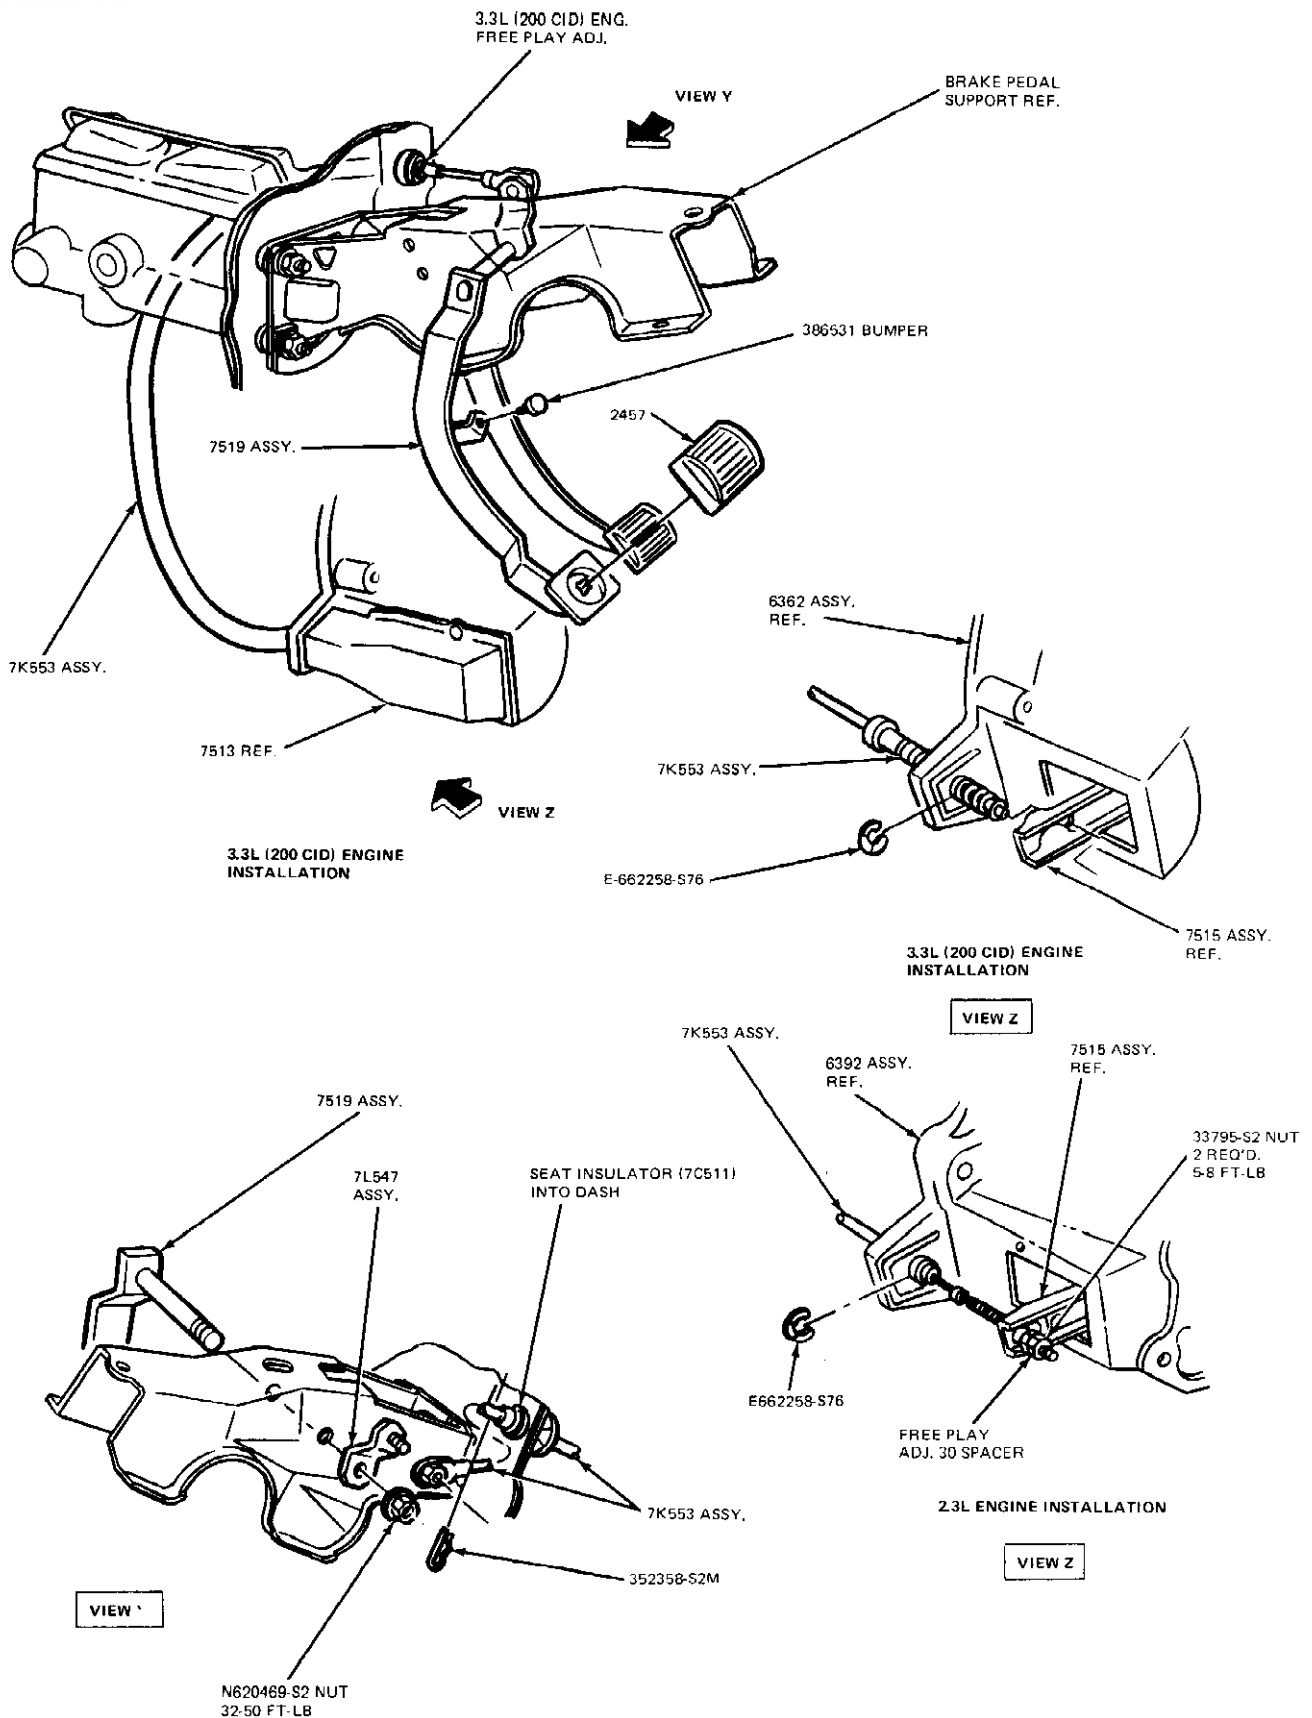

FIG. 4 Clutch Pedal and Linkage Adjustment—Fairmont/Zephyr
Fairmont/Zephyr**2.3 Litre Engine****Refer to Fig. 4**
3.3L (200 CID) Engine**Refer to Fig. 4**
Refer to Fig. 4